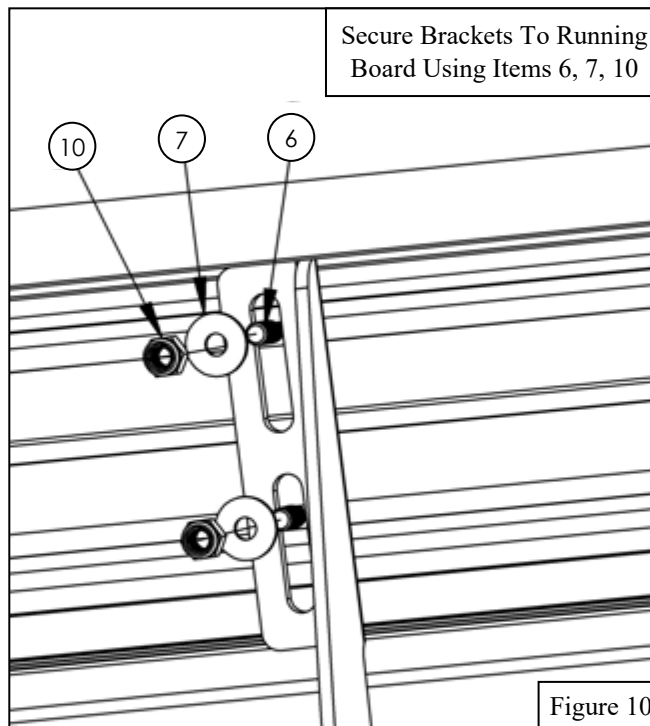

Figure 10
10. For each running board, loosely install (6) M8 Flat Washers (**item 7**) and (6) M8 Nylon Lock Nuts (**item 10**). See **Figure 10**.